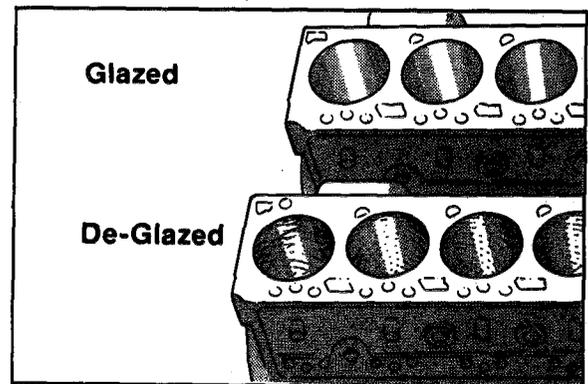

Figure 6-10
1. De-glazing makes the bore rough to help seat rings. Size of bore is not changed with proper de-glazing (Figure 6-10).